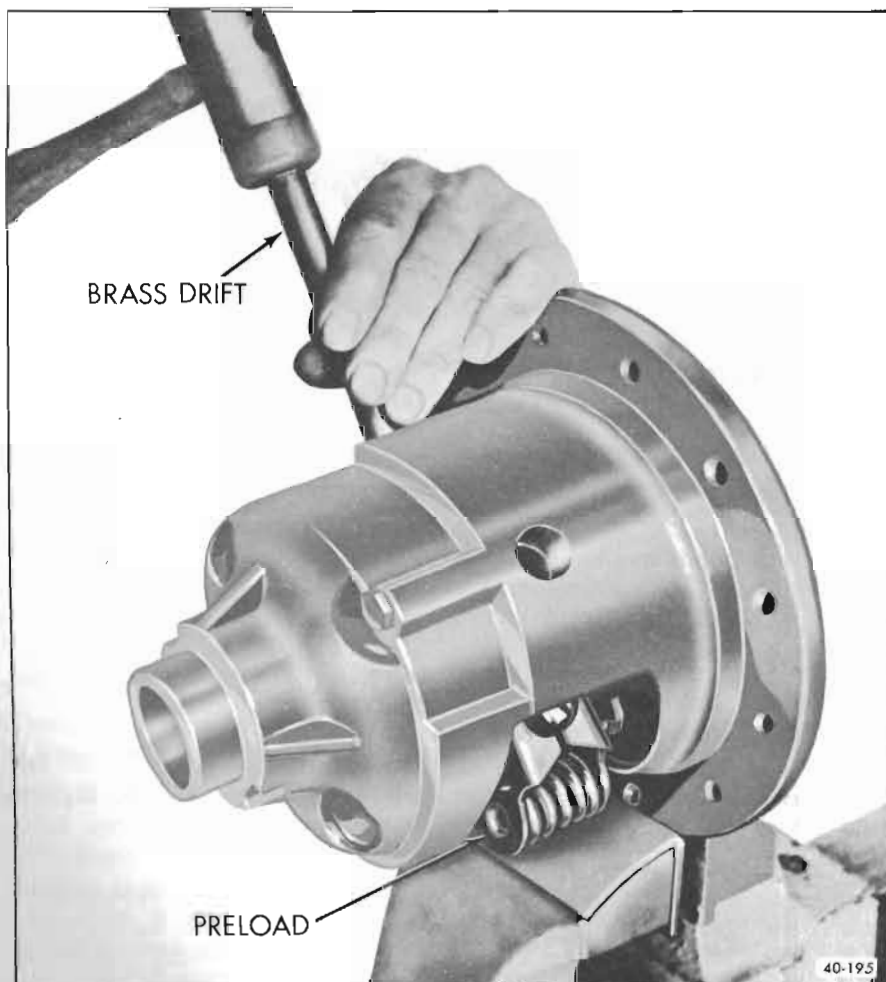

Figure 40-195—Removing Preload Thrust Blocks and Springs
5. Remove the preload spring thrust blocks and spring from the case. See Figure 40-195.